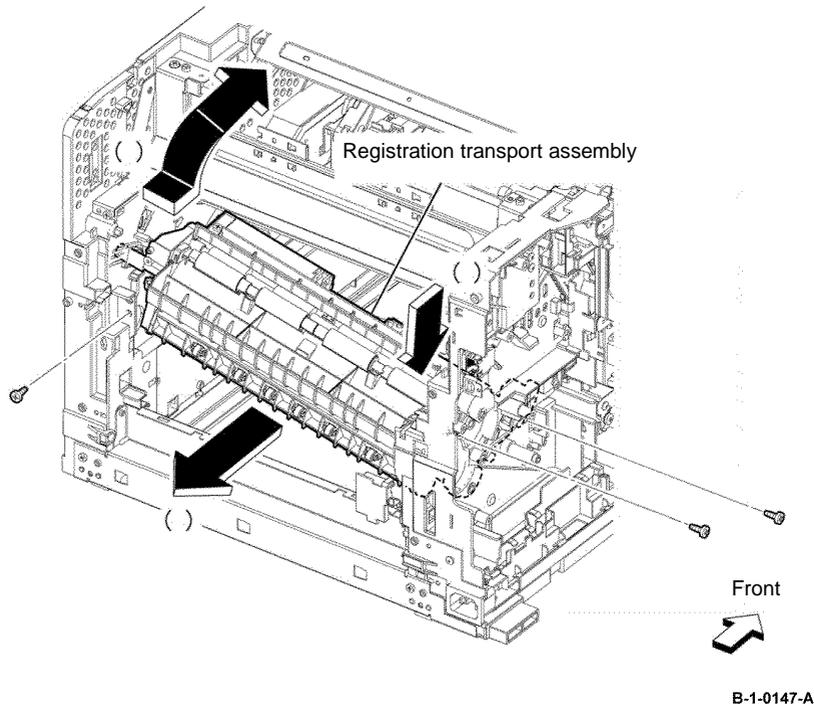

Figure 6 Registration transport assembly removal
23. Remove three screws (silver, tapping, 8mm), then remove the registration transport assembly from the printer, Figure 6.